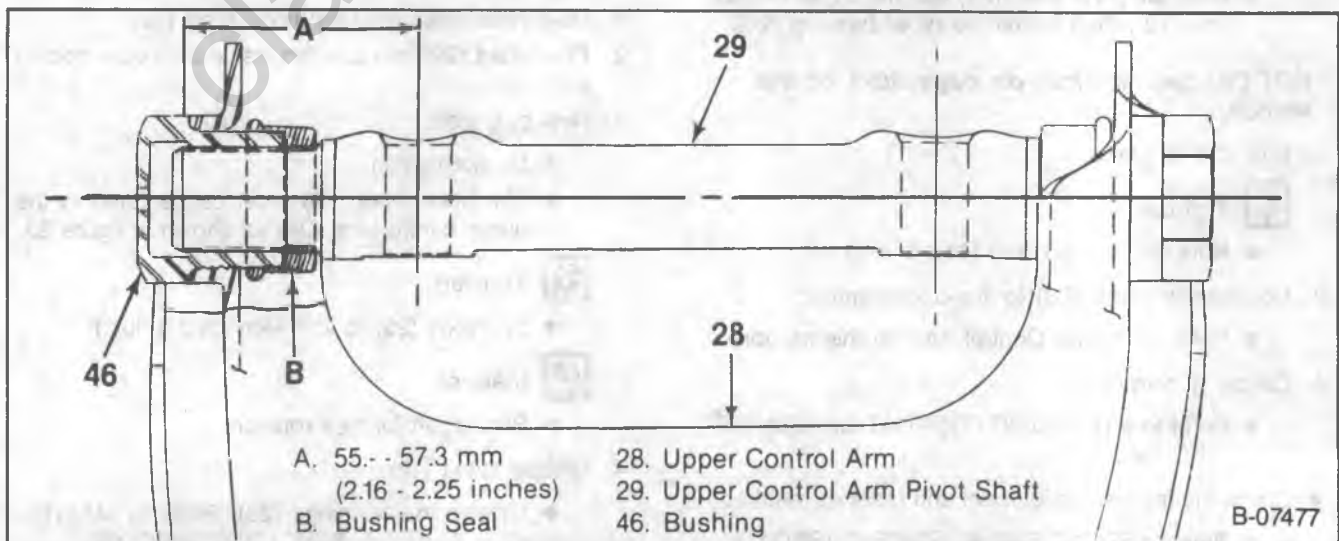

Figure 33 — Centering the Upper Control Arm Shaft (R-P20/2500, 30/3500 and G30/3500 Models)
- New inner seals onto the pivot shaft (29).
- Pivot shaft (29) into position inside the upper control arm.
- The pivot shaft (29) must be centered in the upper control arm (28) as shown in figure 33.